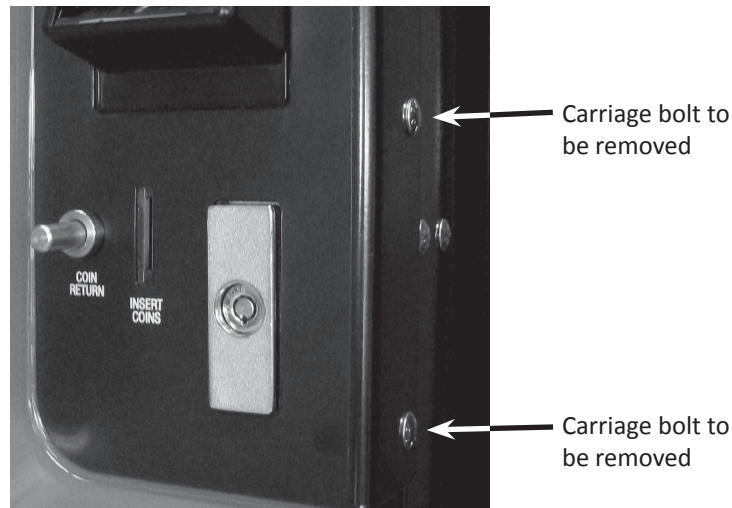

Figure 5.
8. Insert the two T-bolts (from Step 4) into the holes on the side of the lock cover. These T-bolts will also go through the holes previously occupied by the carriage bolts that were removed in Step 5. (Refer to Figure 5.) Secure the T-bolts with the two nuts that were removed in Step 5, but do not tighten them at this point.